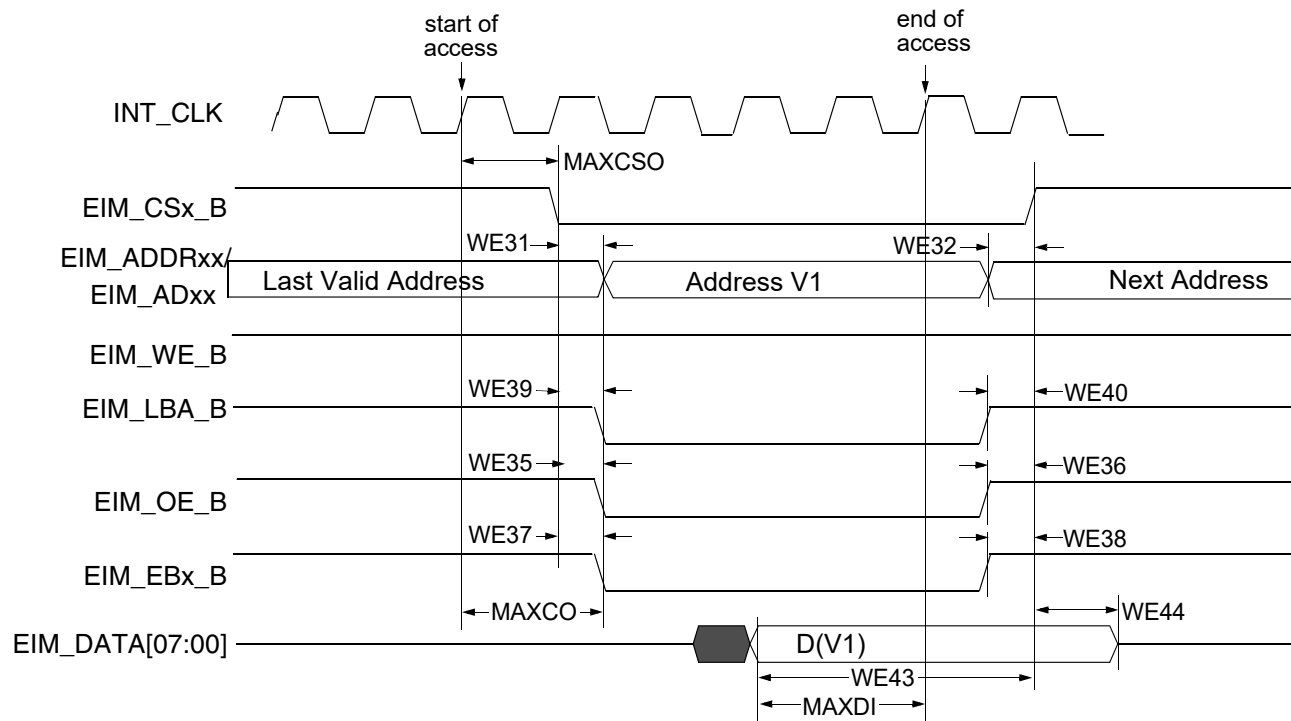
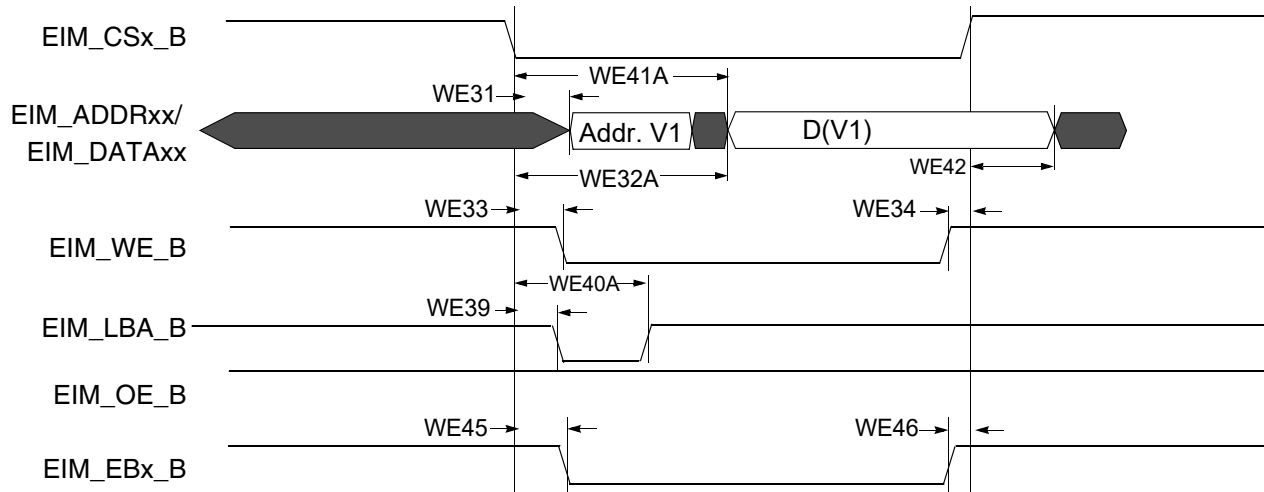

Figure 18. Asynchronous Memory Read Access (RWSC = 5)
Figure 21. Asynchronous A/D Muxed Write Access
Figure 18 through Figure 22 and Table 42 provide timing parameters relative to the chip select (CS) state for asynchronous and DTACK EIM accesses with corresponding EIM bit fields and the timing parameters mentioned above.
Asynchronous read and write access length in cycles may vary from what is shown in Figure 18 through Figure 21 as RWSC, OEN & CSN is configured differently. See the i.MX 6DualPlus/6QuadPlus reference manual (IMX6DQPRM) for the EIM programming model.